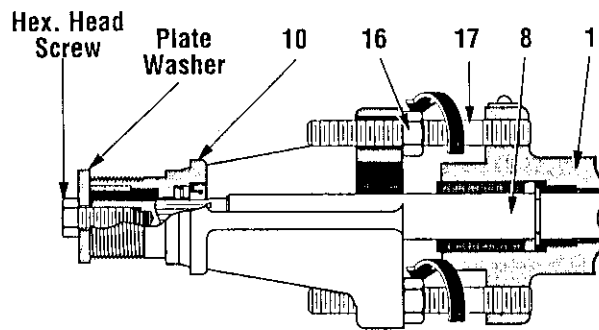

Figure 9: Shaft Extraction
C. The simplest way to remove internal parts is to pull them all out of the body at once. Screw the nuts (16) on studs (17) and install the yoke (10) on the shaft (8), (see figure 9).
D. Install a washer having an outside diameter larger than the end of yoke, then install a hex head screw at the shaft end. (see figure 9).
E. By unscrewing the nuts (16) against the yoke flange, as shown in figure 9, extract shaft (8) and internal parts from body. Remove extracting device from the shaft.